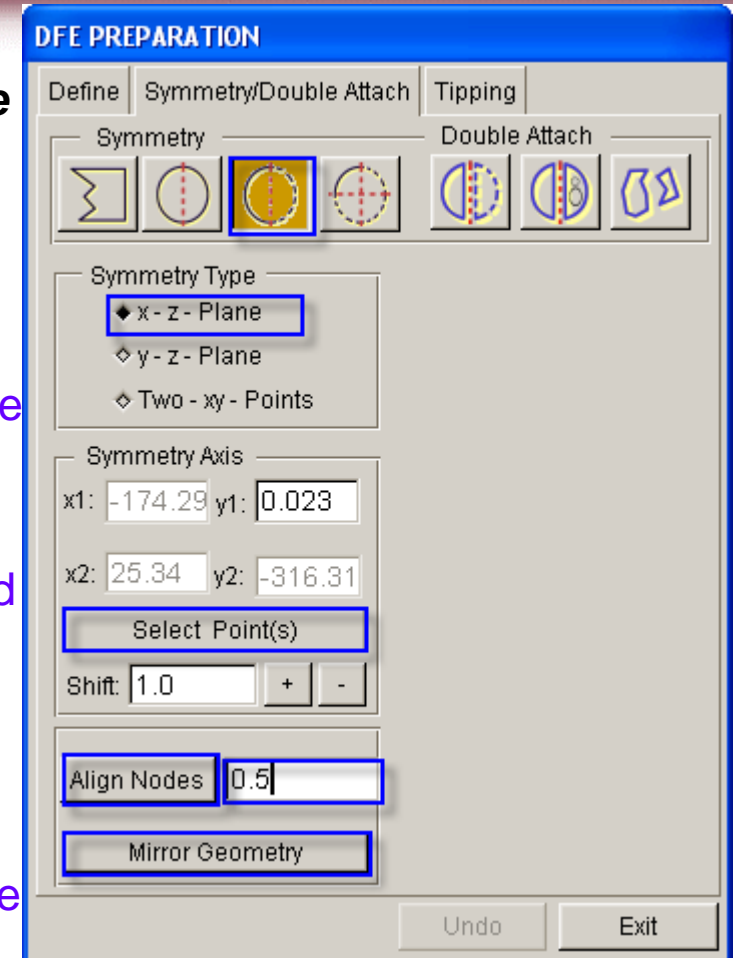

Figure 6
- b) Select Symmetry: **Half Symmetry Input** (See Figure 6).